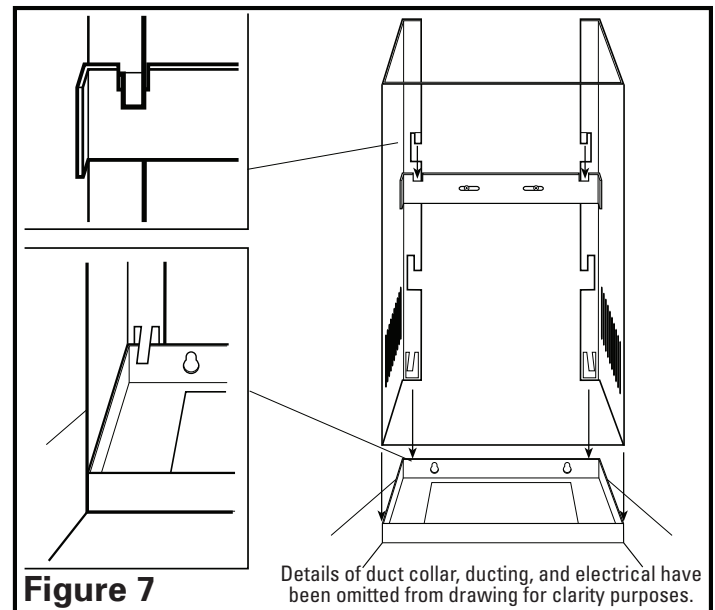

Figure 7
3. Slide chimney in place so top tabs of the chimney are secured in place on the indents of the vertical chimney bracket and the backside of the chimney fits between the hood and the wall with the bottom tabs overlapping the back lip of the hood (**Figure 7**).